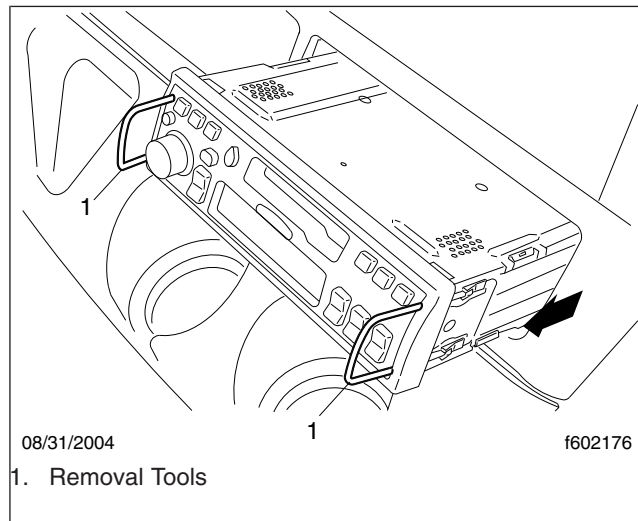

Fig. 1, Removing the Radio
2. Install the removal tools into the holes in the radio faceplate. See Fig. 1. Push them in until they click.